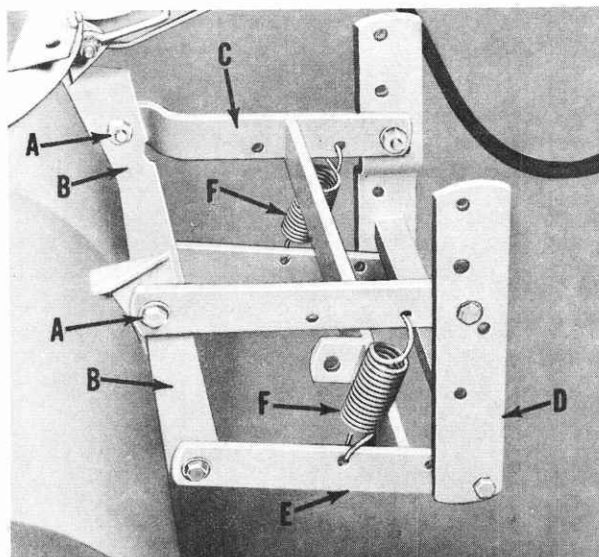

FIG. 1
2. Refer to Fig. 1.
3. Refer to Fig. 1.